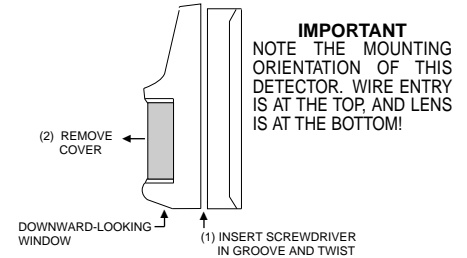

Figure 1. Cover Removal
1. Remove the front cover as shown in Figure 1.